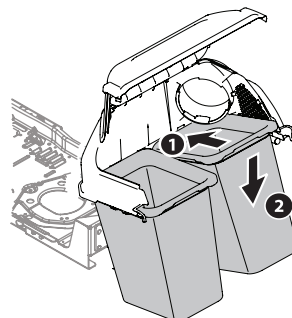

Figure 11
7. Install both grass bag assemblies (664-05104) onto the hanger rail by inserting the front edge in first, as shown in Figure 11, and setting the back edge down until it fits into the assembly.